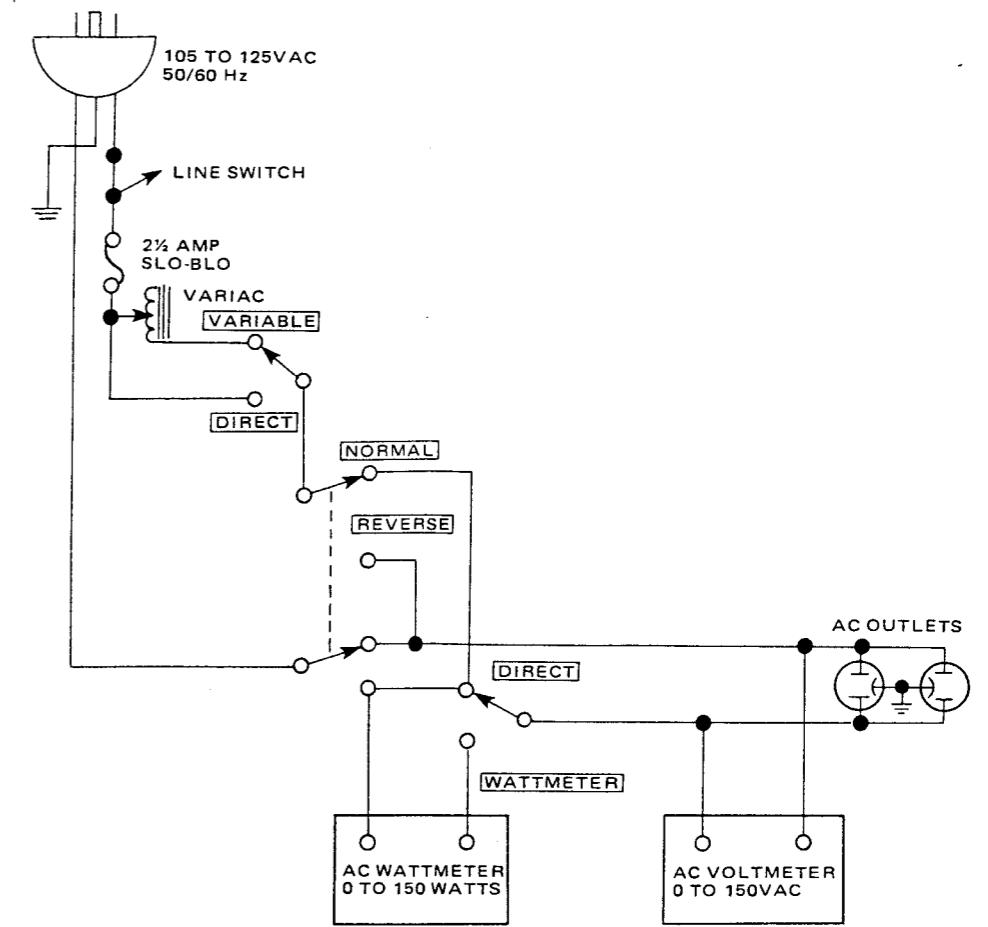
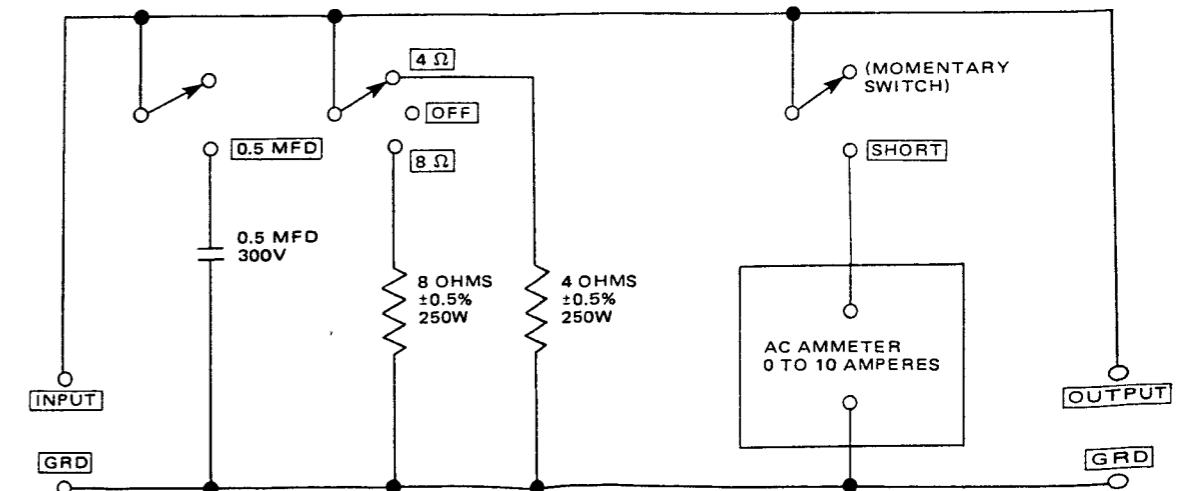

Figure 1. AC Power Control Box Simplified Schematic
Figure 2. Amplifier Output Load Box Simplified Schematic
Table 1 lists the test equipment required for servicing the PM250/PM400 Stereo Console Amplifier. The wattmeter, AC voltmeter, and variable autotransformer may be assembled as a test fixture as shown schematically in Figure 1. The load resistors and AC ammeter may be assembled into a second test fixture as shown in Figure 2.
1. Make the test setup shown in Figure 1 with the instrument controls set in the following positions:
| AC Power Control Box | Optional Item. Fabricate in accordance with Figure 1 | Monitors and controls primary power for amplifier |
| Amplifier Output Load Box | Optional Item. Fabricate in accordance with Figure 2 | Provides various amplifier loads and can monitor shorted output |